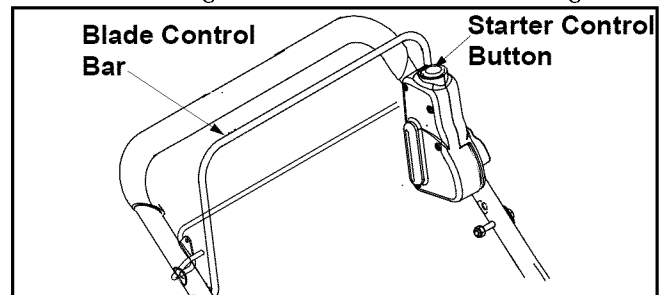

Figure 11
7. Turn safety key 1/4 turn clockwise to RUN position.
11. Using your left hand, pull the blade control bar all the way toward the upper handle. See Figure 11.
3. Turn safety key 1/4 turn clockwise to RUN position.
6. Using your left hand, pull the blade control bar all the way toward the upper handle. See Figure 11. Starter will de-energize and engine will start.